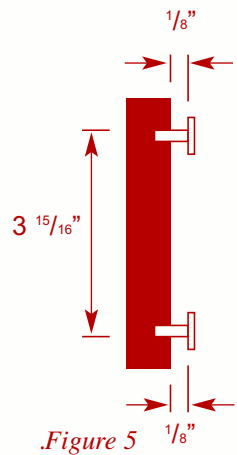

Figure 5 $\frac{1}{8}$ "
1. Drill two holes $3 \frac{15}{16}$ inches (100 mm) apart. Then thread a screw into each hole, letting the heads extend about $\frac{1}{8}$ inch (3.5 mm) from the wall. See Figure 5